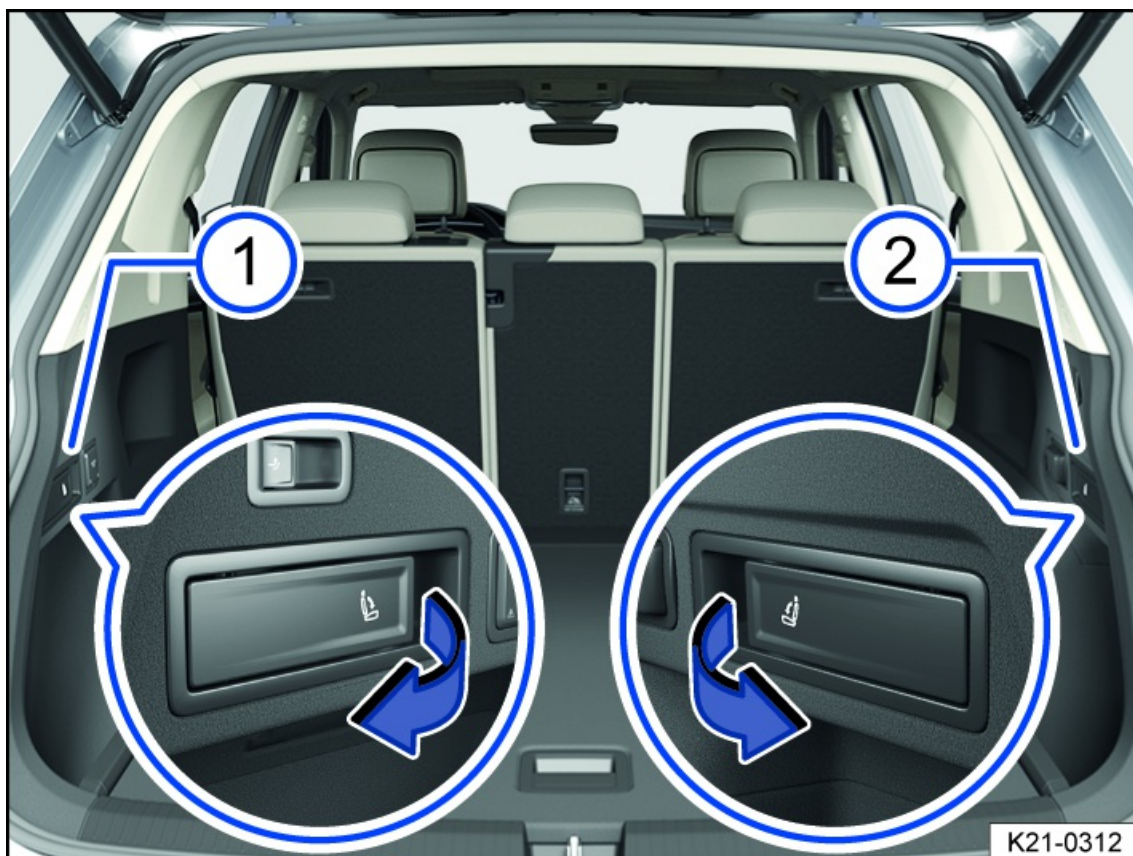

Fig. 85 In the luggage compartment: Remote unlocking lever for the left ① and right ② part of the rear seat backrest.
3. Pull the remote release lever *fig. 85* for the backrest section to be folded forward in the direction of the arrow.